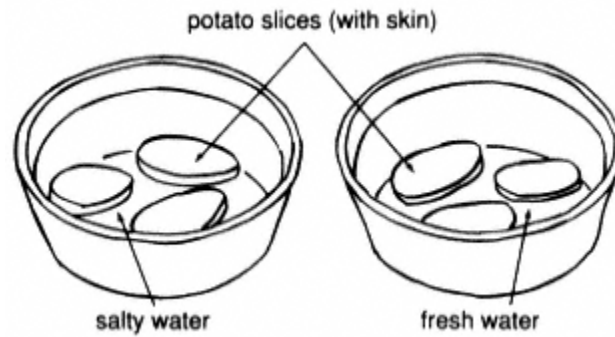

Figure 8.2
a. To demonstrate the effect of an increase of sodium ions in extracellular fluids, mix 1 tablespoon (15 ml) of salt in 1 cup (250 ml) of water in a small bowl. Cut three potato slices, each about $\frac{1}{4}$ inch (6 mm) thick. Check their flexibility by bending the slices back and forth with your fingers. Place the potato slices in the salty water (see Figure 8.2). After 15 minutes, test the flexibility of the potato slices again.